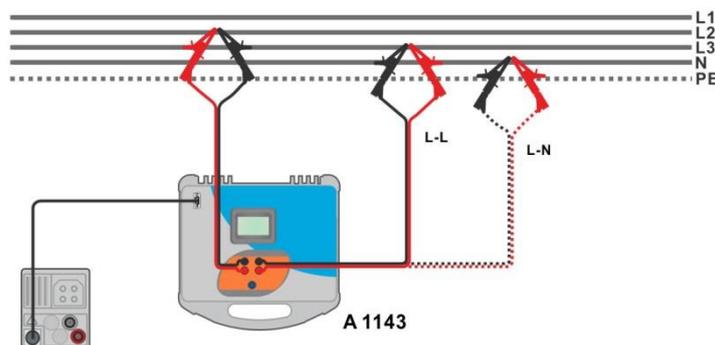

Figure 7.42: Phase-neutral or phase-phase high precision Line impedance measurement – Connection of A 1143
- ▶ Connect test leads to the object under test, see **Figure 7.42**.